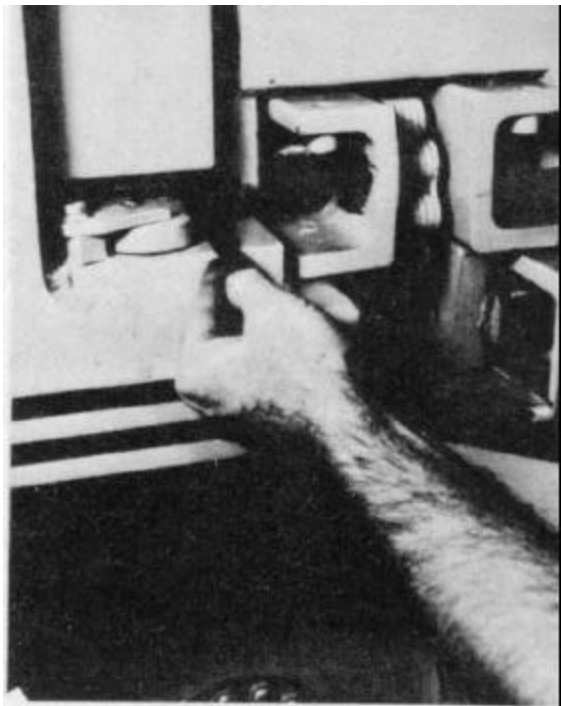

Figure 5-111
9. Shift the front end assembly fully to the right. The access hole for the adjusting screw on the right rear crosshead roller is now visible. It is found in front of the hydraulic shift cylinder chassis connection. Fig. 5-111 shows a set screw wrench near the hole.